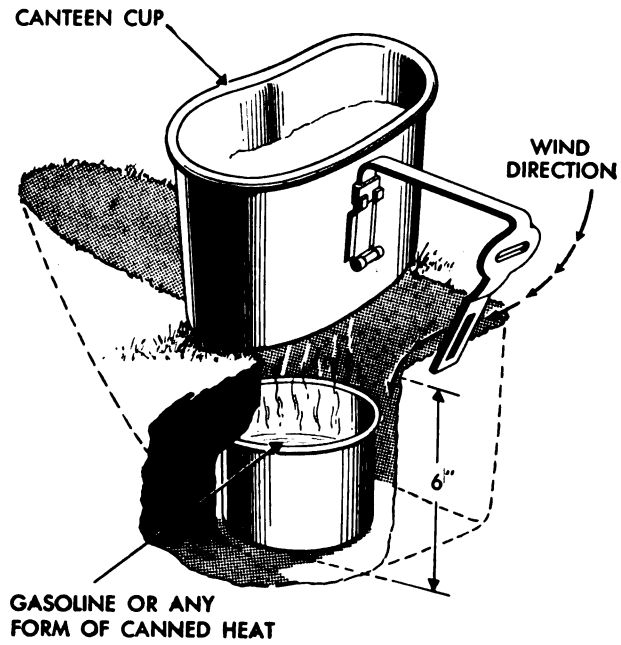

Figure 30. A type of simple heating expedient.
d. To get the best results from an improvised stove, scoop a narrow trench in the ground, about 8 inches long and sloping to a depth of 6 inches or less at one end. (See fig. 30). Place the heating